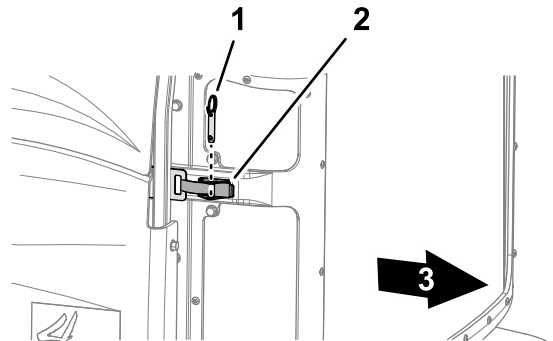

Figure 65
2. Remove the ball pin from the screen latch (Figure 65)